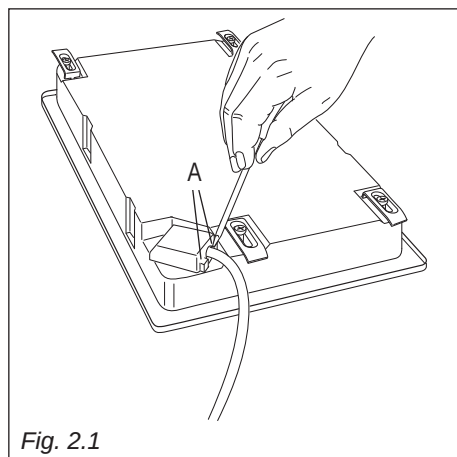

Fig. 2.1
- Turn the cooktop over and unhook the terminal board cover by inserting a screwdriver into the two hooks "A" (fig. 2.1).